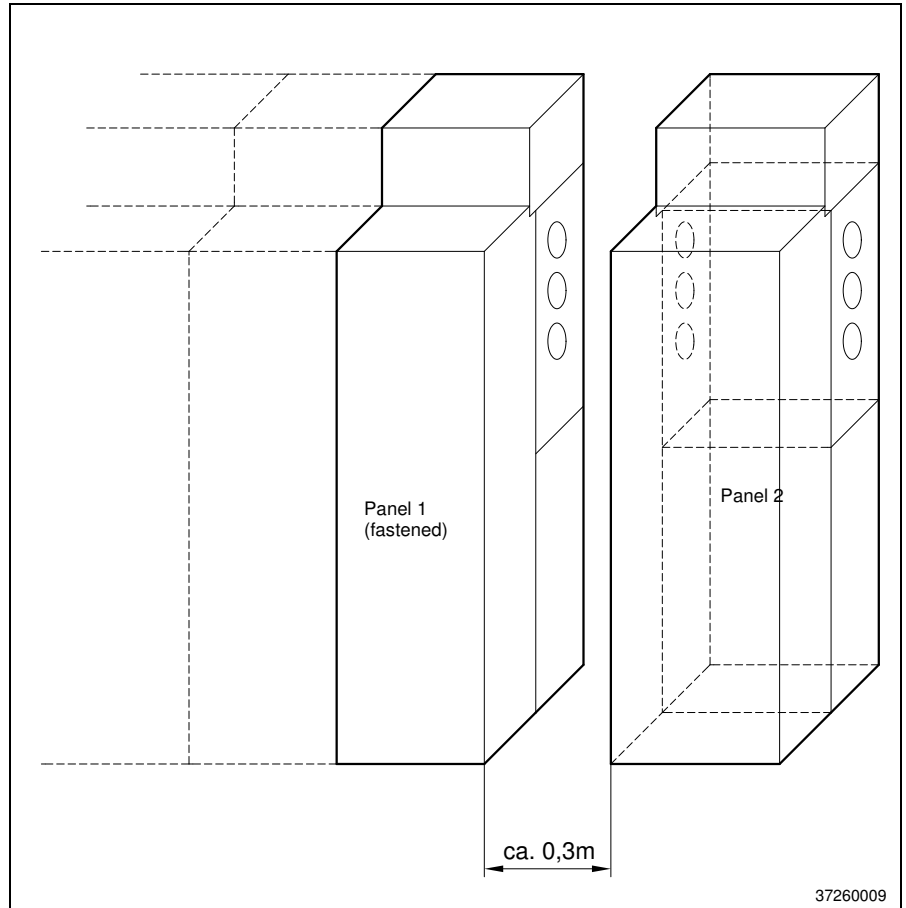

Fig. 20
Joining of GAE630 panels is in most cases performed to the right. For simplicity, in the following the left-hand panel is referred to as panel 1 and the right-hand panel as panel 2 (Fig. 20).
**2.** Place panel 2 at a distance of approx. 0.3 m to the right of panel 1 (Fig. 20). During assembly observe the notes in the chapter “transport and assembly” in the operating instructions for the respective GAE panel.